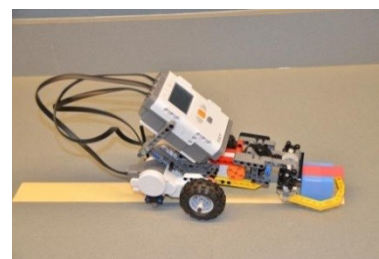

Figure 2
- Drives to the appropriate location (far end of the tagboard ruler), then releases the piece of strip paper. See Figure 2. Staff discusses with student the benefit of securing the piece with glue. Staff takes off the strip of paper from the block and secures it to the tag board with glue.